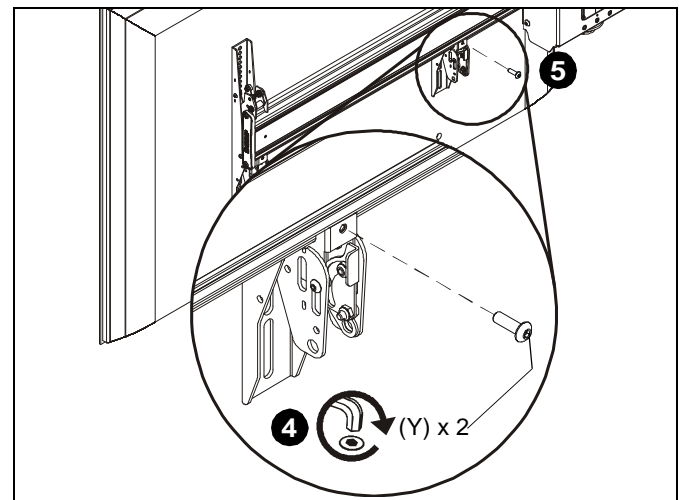

Figure 9
- Fasten bracket against ceiling mount extrusion using one 10-24 x 5/8" button head cap screw (Y). (See Figure 9)